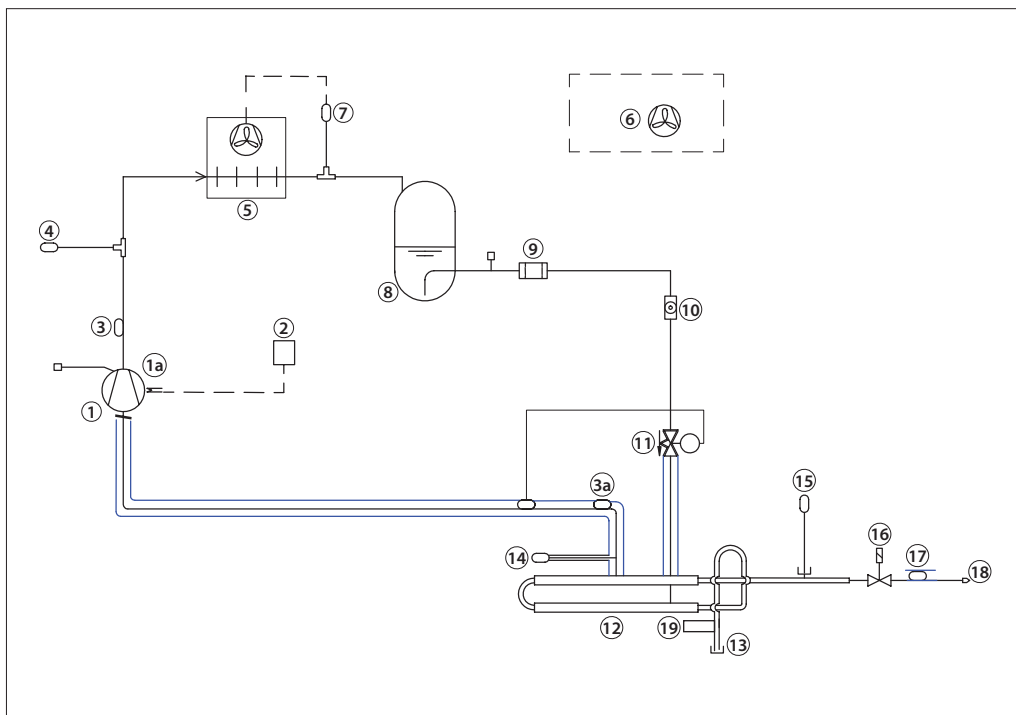

Fig. 1 - Purger R452A lay-out
| Repair kit for Main Purge Valve (Armature, tube, Sealing, Orifice, Filter insert). See Fig. 1, Item 16 | x                                       | x                                              | 084H5051   |
| Solenoid coil, 24V DC for Main Purge Valve. See Fig. 1, Item 16                                        | x                                       | x                                              | 018F6757   |
| Restrictor, in purge line after Main Purge Valve. See Fig. 1, Item 18 and Fig. 13.                     |                                         | x                                              | 084H5054   |
\*\* See Fig. 1 and Fig. 10a
Only 1 mechanical connection is needed for the purger (see fig. 1). The flow of ammonia/NC gases from the main plant is done through the flange for ammonia (see 13 in Fig. 1 below), while the NC gas purge is done through the blow-off pipe after the purge restrictor (18).